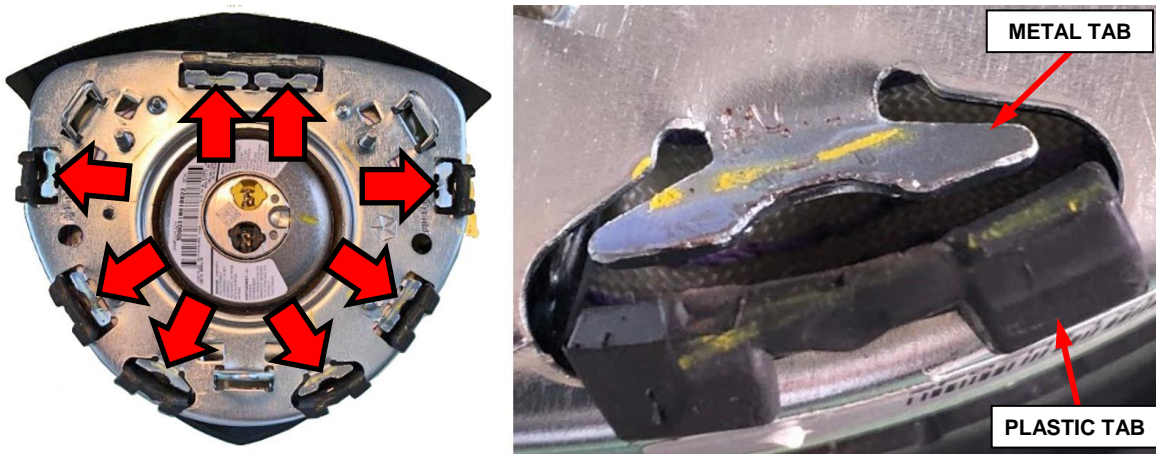

Figure 18 – DAB Cover Installation
17. Install backing plate working from bottom to top, inserting the plastic cover tabs into their respective slots in the backing plate. Make sure the cover tabs are engaged with the metal backing plate divots (Figure 18).
18. Bend the eight metal backing plate tabs down using the wide-tipped long-nose pliers (Figures 18 and 19).